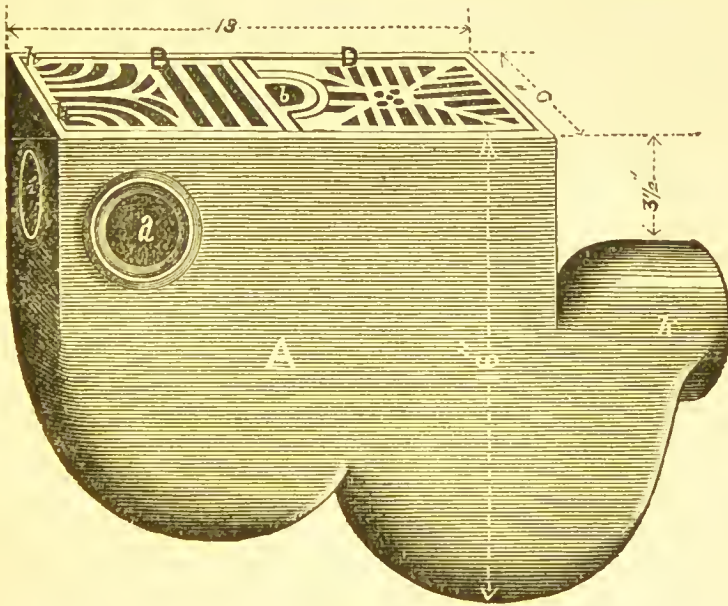
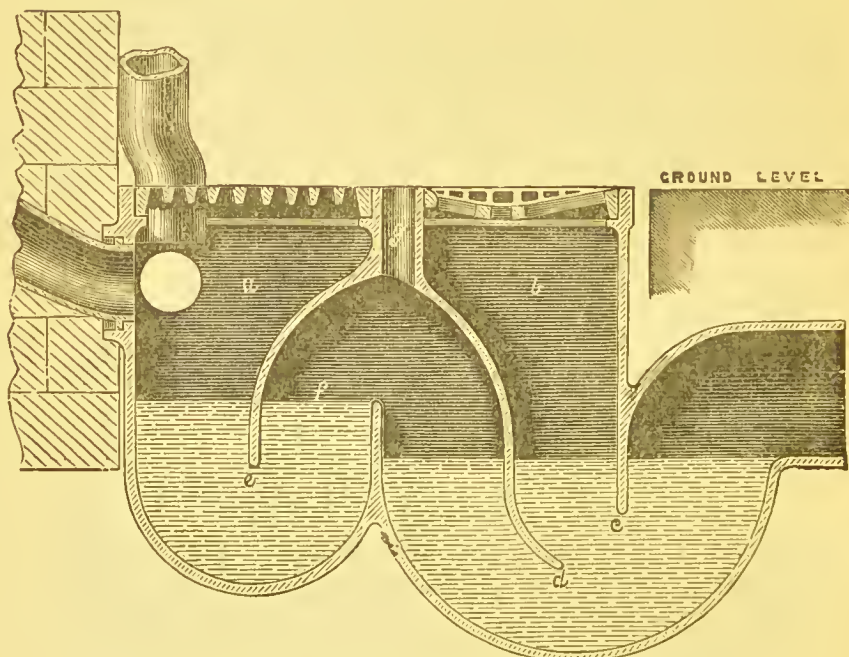

FIG. 16.
FIG. 17. LONGITUDINAL VERTICAL SECTION.
*Patent "Triple-dip Trap, or Waste-receiver and Drain-interceptor."*—The writer has taken out a patent for this trap. It can be made in any size, but the size, as given in Fig. 16, is large
enough for almost every purpose for which it should be used. The trap is made in cane-coloured pottery-ware. Fig. 16 shows a view of this trap, and Fig. 17 a section.
The compartment *a*, Fig. 17, is used exclusively for receiving waste-pipes from baths, lavatories, sinks, and such-like wastes, but *not for sewage wastes*.
The compartment *b*, Fig. 17, is for taking away the surface drainage, when the trap is fixed in the area, yard, or any such place; and also for providing a way of escape into the open air for any strong current of air blowing through the drain, and for preventing its passing into the waste-receiving compartment, where the ends of the various waste-pipes are left open.
There are *three* water-dips (or water-locks) in this trap, and before any noxious gases from the drain can get to the waste-pipes emptying themselves into the waste-receiving compartment, they must push their way through two separate bodies of water and three water-dips—*i.e.*, a depth of  $3\frac{3}{4}$  in. at the first two dips, and another depth of 2 in. at the third dip. The dip *c*, Fig. 17, goes down into the water  $2\frac{1}{2}$  in.; the dip *d*, Fig. 17, goes down  $1\frac{1}{4}$  in. lower into the same water. The dip *e*, Fig. 17, is in another compartment, and goes down into the water  $2\frac{1}{2}$  in.
Suppose a strong current of air to be blowing up through the drain, and to force its way through the *first* dip, *c*, Fig. 17, it would at once escape
into the external air through the compartment *b*, Fig. 17, for the *second* dip, *d*, Fig. 17, is  $1\frac{1}{4}$  in. lower in the water. But even supposing this strong current of air in the drain forces itself under dip *d*, as well as *c*, into the compartment *f*, Fig. 17, it would at once escape through the air-pipe, *g*, and would never get into the compartment *a*, under the *third* dip, *e*, Fig. 17.
The top of the trap is protected by two separate galvanised iron gratings, as shown in Fig. 16, that to the waste-receiving compartment is fitted to the pipes entering into the trap, and that to the other is sunk to receive the surface-water.
Means are provided by a countersunk hole, as *a*, Fig. 16, in each of the three sides of the waste-receiving compartment, to receive "horizontal" waste-pipes, and when not required, such holes are filled up with a stopper, of the same ware as the trap, made for the purpose; or the waste-pipes can be taken in at the top, as shown in Fig. 17. When the pipes enter at the top they must not go more than 3 in. into the trap, or down to the same level as the pipes entering at the sides, so that the *ends* in each case may be left *open to the atmosphere*. This "waste-receiver" should always be fixed a yard or two away from windows and doors. (See Plate 3, Fig. 4, showing this trap fixed.)